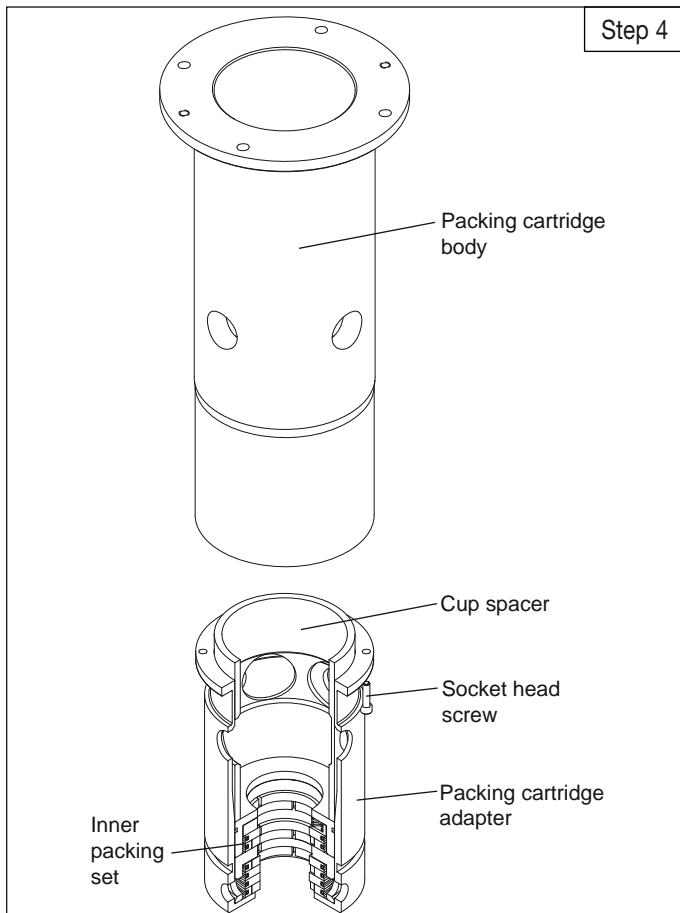

Figure 4.6F : Packing assembly
- e. Invert the packing cartridge adapter with the inner packing set in it, and remove Tool 4794-X. Slide the cup spacer into the packing cartridge adapter so that it engages the inner packing set. See Figure 4.6F.